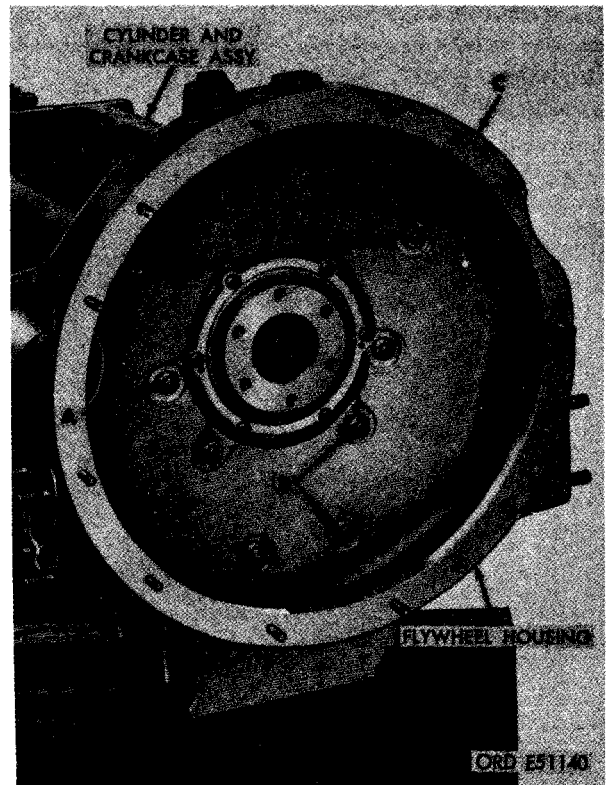

FIGURE 299. REMOVING OR INSTALLING FLYWHEEL HOUSING.
b. Removal. Figure 299. (A) Remove two 1/2-inch plain nuts and 17/32 x 1/8 thk flat washers. (B) Remove six 1/2-inch plain nuts and 17/32 x 1/16 thk flat washers securing flywheel housing to cylinder and crankcase assembly. (C) Remove flywheel housing.